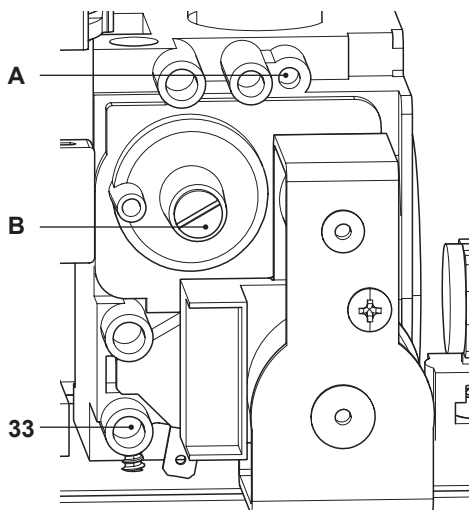

Fig. 7.9
- With the boiler switched on at full rate (maximum output power), check the supply pressure by using the 33 point in Fig. 7.9 and compare the value with that reported on the Gas supply pressure table (minimum inlet pressure) in the "Technical Data" section (pag. 28 Inovia 25S ERP).
- Ensure the test nipple 33 in Fig. 7.9 is firmly closed.